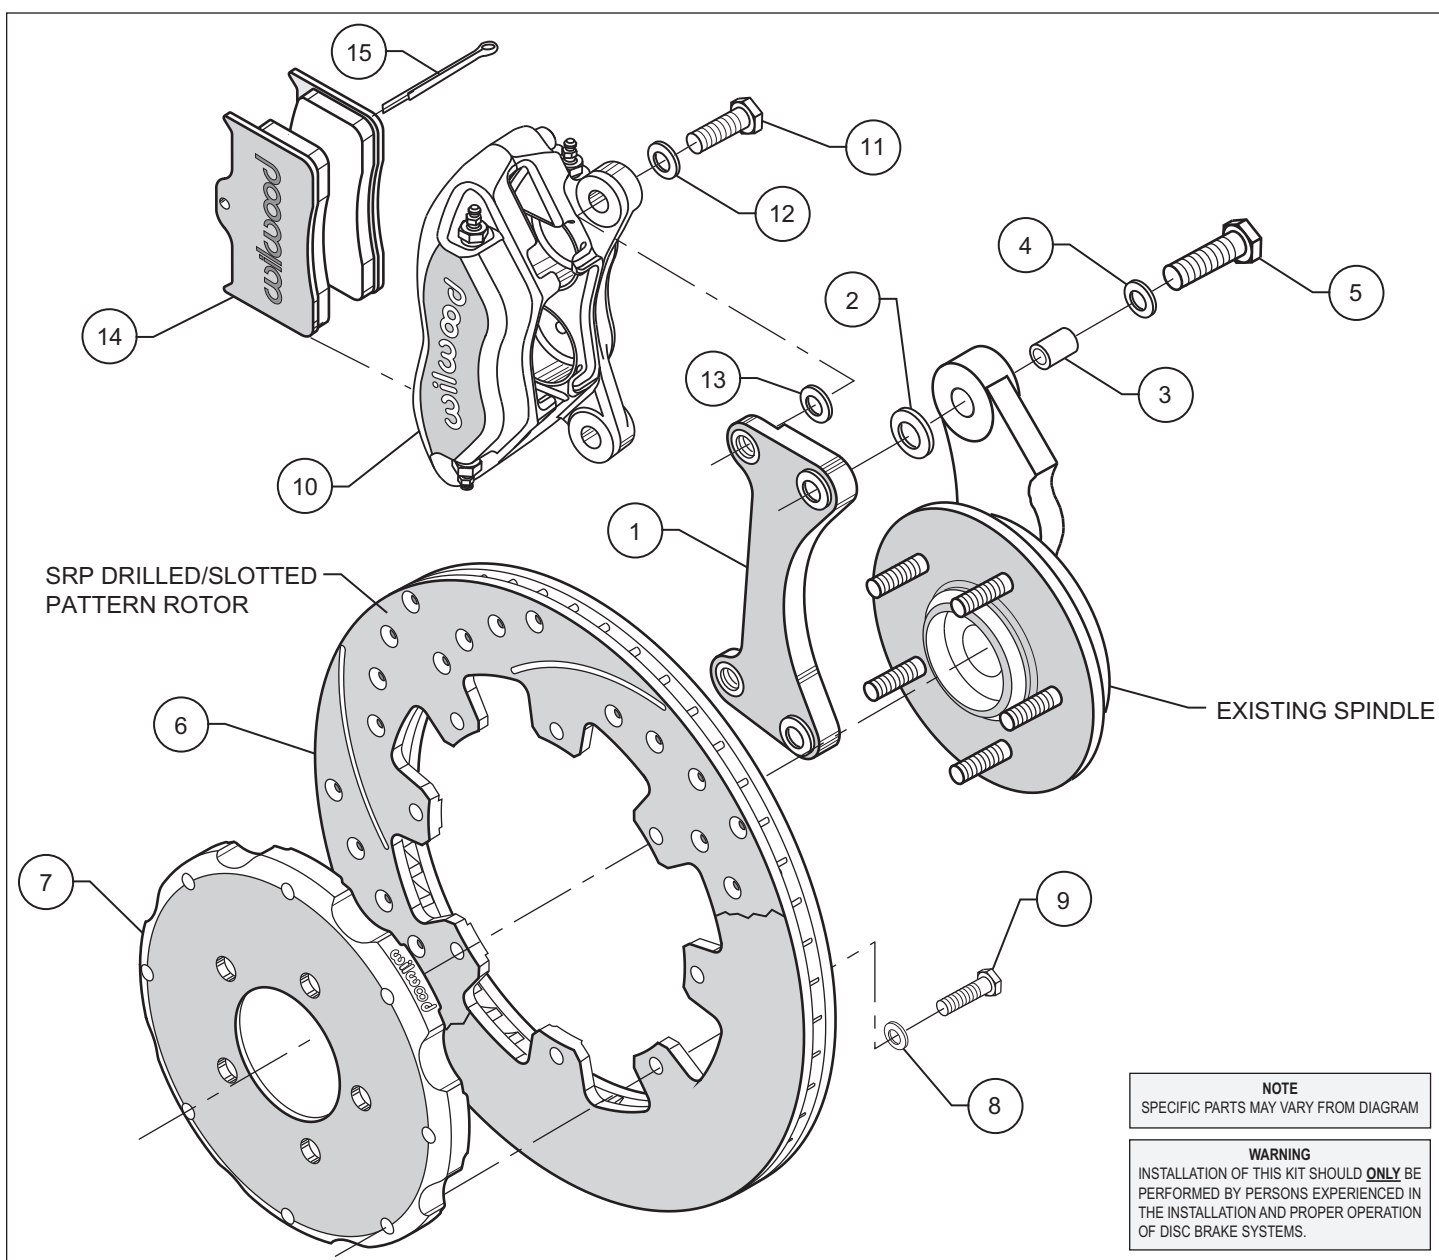
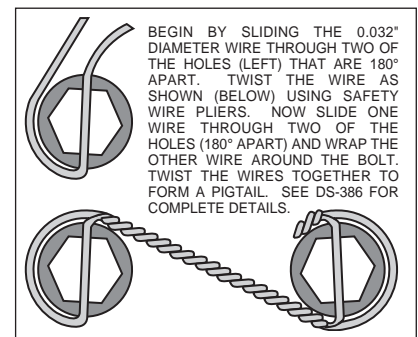

Figure 1. Typical Installation Configuration, Left Hand Application Shown
Figure 3. Safety Wire Diagram
- Insert one sleeve (3) each into the holes on the top and bottom of the spindle “ears” where the OEM caliper bracket was removed. Apply red *Loctite*® 271 to the caliper mounting bracket bolt threads (5) before installation of the caliper mounting bracket (1). Install the bracket with the flanged heads of the clinch nuts facing outboard, as shown in Figure 1. Slide bolt (5) through washer (4) and into the previously installed sleeve (3), from the backside of the spindle. Position .125" Thick washer (2) between the spindle and the bracket. Finger tighten. Repeat for the lower mounting holes. Torque bolts to 75 ft-lb.
- With the larger I.D. side of the rotor (6) facing away from the hat (7), attach rotor (6) to hat (7) using washers (8) and bolts (9) as shown in Figure 1. Using an alternating sequence, remove bolts (9) one at a time, apply red *Loctite*® 271 to the threads, and torque to 120-144 in-lb. Safety wire bolts (9) using standard 0.032 inch diameter stainless steel safety wire as shown in Figure 3. Please refer to Wilwood’s data sheet DS-386 (available at www.wilwood.com/pdf/ds386.pdf) for complete safety wire installation instructions. Slide the rotor/hat assembly onto the axle hub. Install three lug nuts (finger tighten) to keep the rotor/hat assembly in place while continuing with the installation.